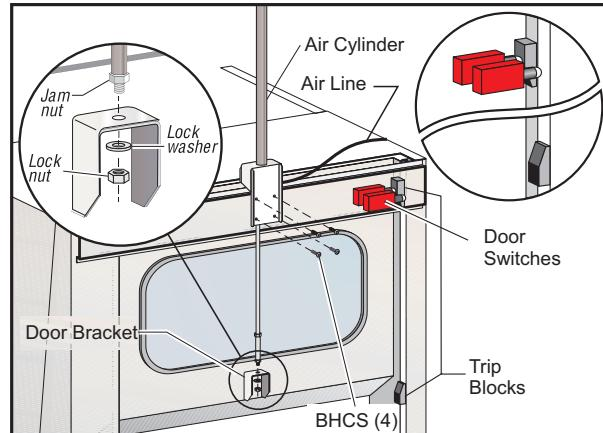

Figure 3.3 Air cylinder installation.
3. Remove the lock nut and washer from the end of the air cylinder rod, but leave the jam nut in place. Connect the automatic door air cylinder and bracket to the machine with four 1/4"-20 BHCS, as shown in Figure 3.3.